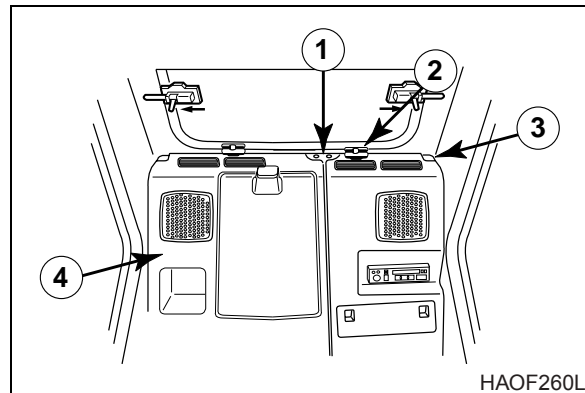

Figure 3
13. Remove two rubber stops (2, Figure 3) used in installing the front lower glass. Remove bolts (1) from the rear left and right dash covers. Lift left side cover (3) slightly and disconnect speaker wire, stereo wire and antenna wire connector. Remove left cover (3).
14. Lift right side cover (4, Figure 3) and disconnect speaker wire. Remove right side cover.
9. Connect speaker wire to right side cover (4, Figure 3).
10. Connect speaker wire, stereo wire and antenna wire connector to left side cover (3).
11. Install bolts (1) to hold rear left and right dash covers (3 and 4) in place.
12. Install two rubber stops (2, Figure 3) used in storing the front lower glass.